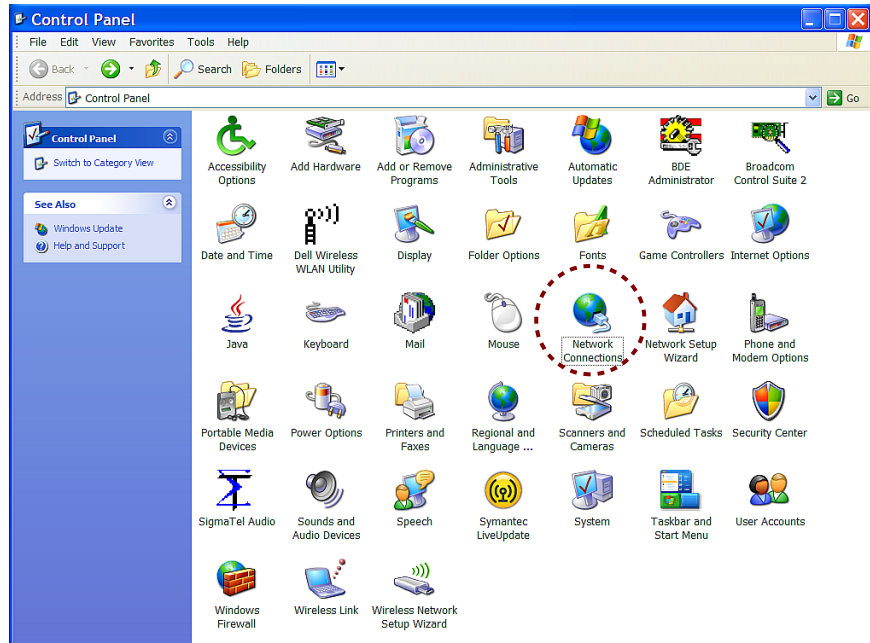

Figure 2.3b- Control Panel
*Note: The control panel shown (Figure 2.3b) is in “Classic View.” If the control panel is in “Category View,” select the “Classic View” option before proceeding.*